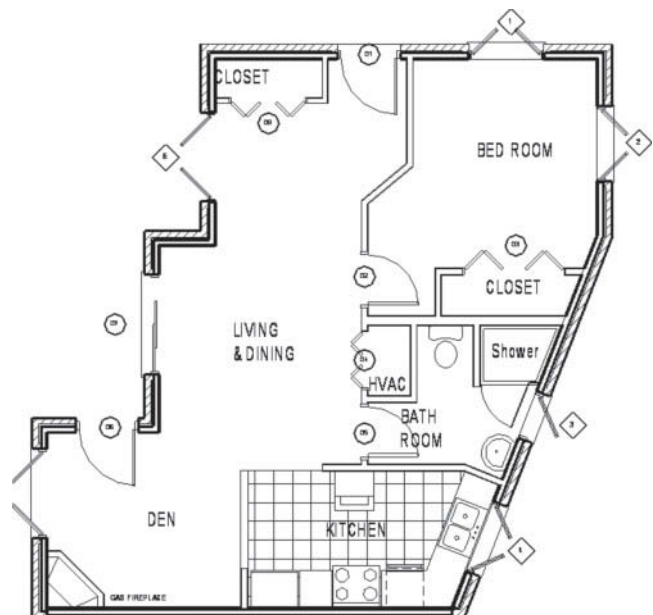

Figure 3-14
6. The 2D CAD drawing will now appear in the **Drawing Editor** (see Figure 3-14).